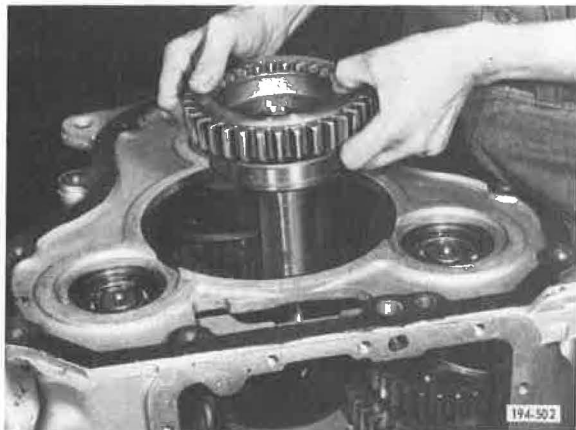

Figure 94. Removing Main Drive Pinion
10. Remove front compound main drive pinion. If necessary, tap on main drive pinion with a soft headed mallet, driving it rearward. See Figure 94.